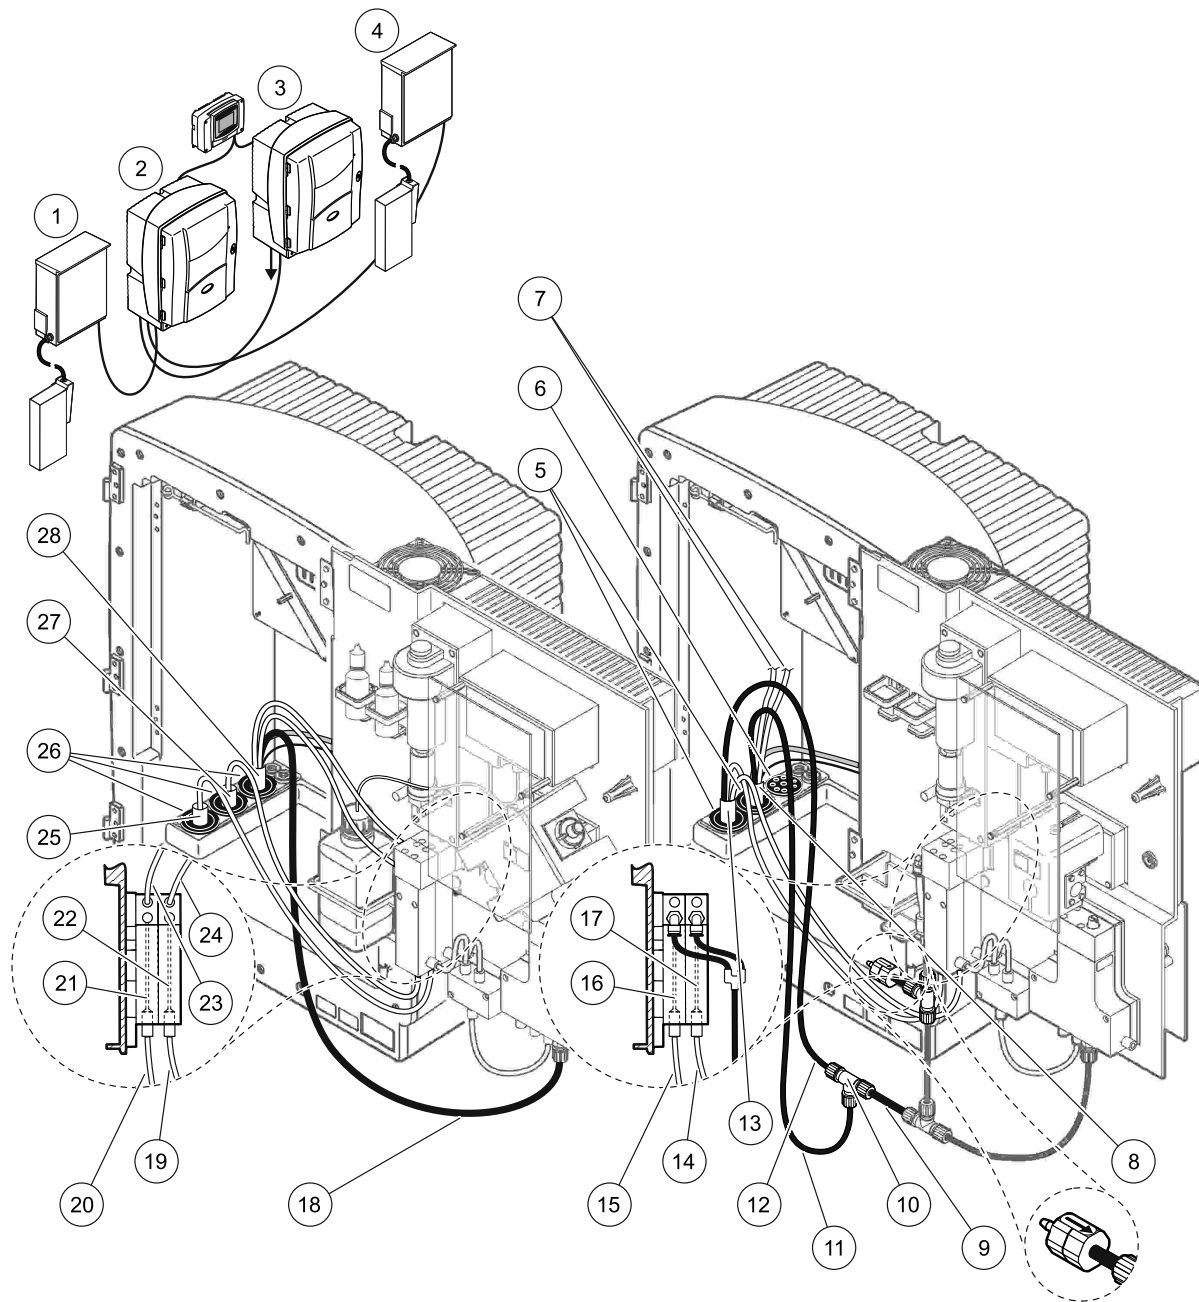

Figure 34 Option 6 setup
Refer to Figure 34 and the following instructions for Option 6:
- a. Feed the heated hose from FILTRAX 1 through the analyzer (Figure 34, item 25). Use Seal Plug #1 to secure.
- b. Feed the heated hose from FILTRAX 2 through the analyzer (item 27). Use Seal Plug #1 to secure.
- c. Feed the heated drain hose through the analyzer (item 28). Use Seal Plug #1 to secure. Connect the heated drain power connections. Refer to section 3.5.5, page 27.
- f. Connect the sample line from FILTRAX 1 to the bottom inlet on Overflow Vessel 1 using the fittings (item 20).
- g. Connect the sample line from FILTRAX 2 to the bottom inlet on Overflow Vessel 2 using the fittings (item 19).
- a. Feed the heated drain hose from Analyzer 1 through Analyzer 2 (item 13). Use Seal Plug #1 to secure.